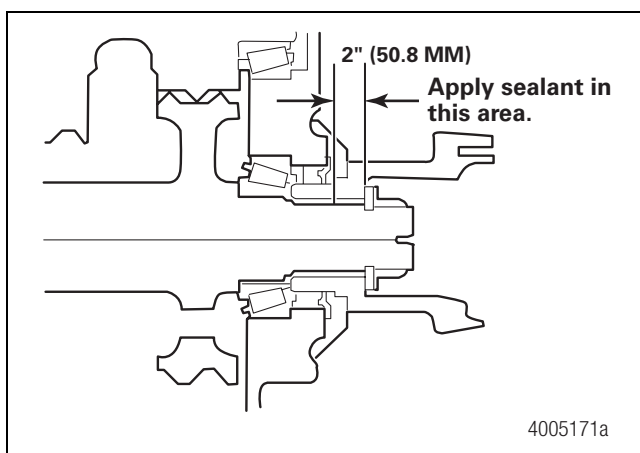

Figure 6.12
- Before installing the yoke, clean the splines of old silastic. Apply a 1/8-inch (3.175 mm) bead of RTV 732 sealant 360 degrees around the outer two-inches (50.8 mm) of the yoke splines. Figure 6.12.